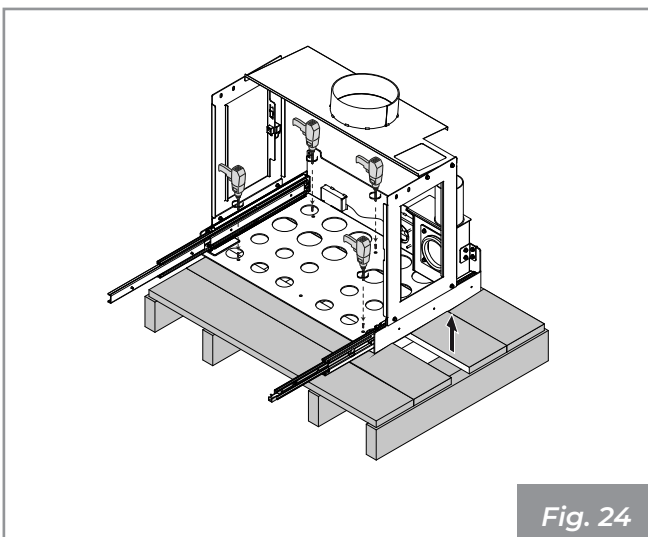

Fig. 24
- Remove the pallet fixing screws from the base and remove the pallet (**Fig. 24**).
- Rest the base on the floor of the chimney (1), trace and make 4 holes (diameter 6) for fixing (2) - use the base itself as a template - then drill